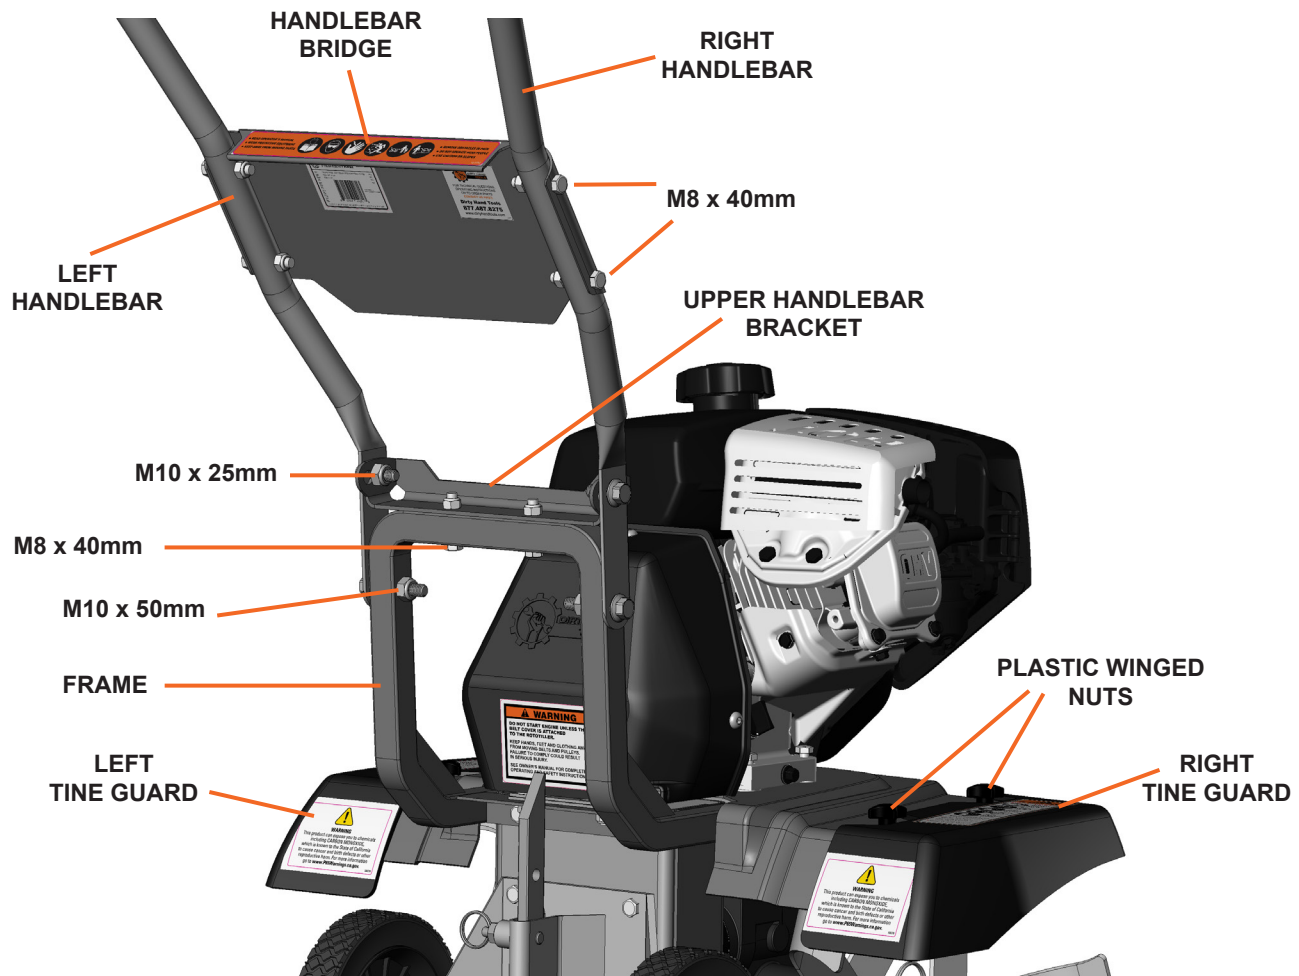

Figure 2
1. Install the upper handlebar bracket to the square tubing of the frame using two M8x40mm bolts and nyloc nuts and two 13mm wrenches in the configuration shown in Figure 2.
2. Position the right and left handlebars with the grips facing outwards. Align the two lower holes in the frame and upper handlebar bracket. Install the M10x25mm and M10x50mm bolts as shown in Figure 2 and hand tighten.